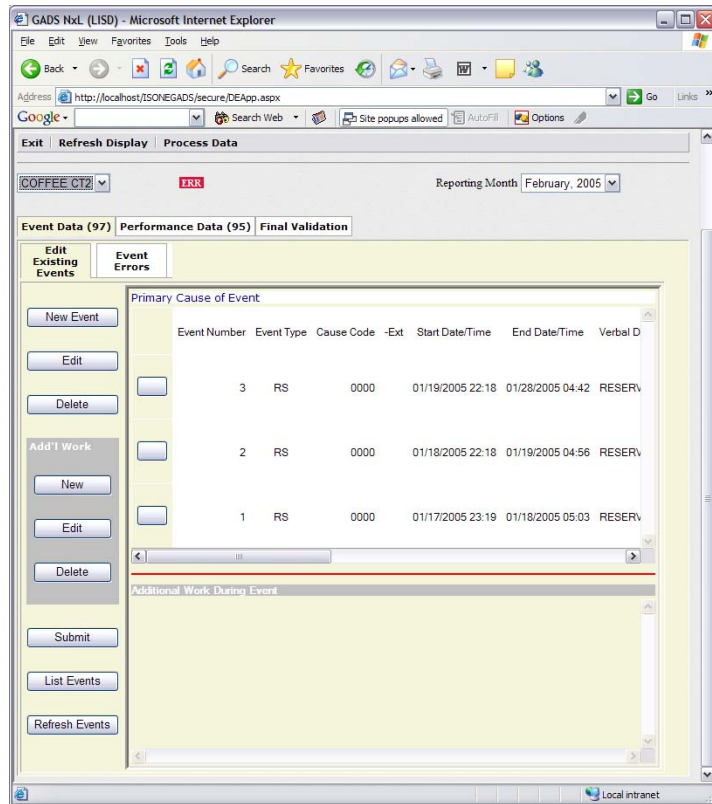

Figure 15. Edit Existing Events
The layout of **the Event Data (97)** tab, shown in Figure 15, displays a summary of all of the events that have occurred on the unit shown in the unit selection list box for the year shown in the Reporting Month list box. The event displays are not in any way tied to the “month” shown in the Reporting Month list box, only the year.